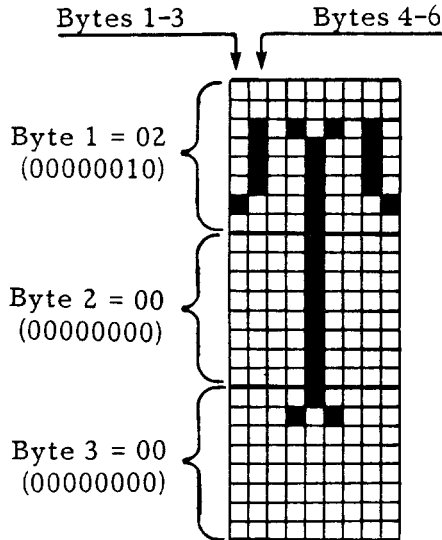

Figure 6-9 Download Image of "T"
To design a character in draft mode, sketch a 24 by 9 dot matrix (See Figure 6-9). Darken the dots that make the character image. Then, encode each of the eight bits in the sequence numbered in Figure 6-9.
For example: (02)HEX, (00)HEX, . . . (00)HEX, is the draft mode image of letter "T" shown in Figure 6-9.